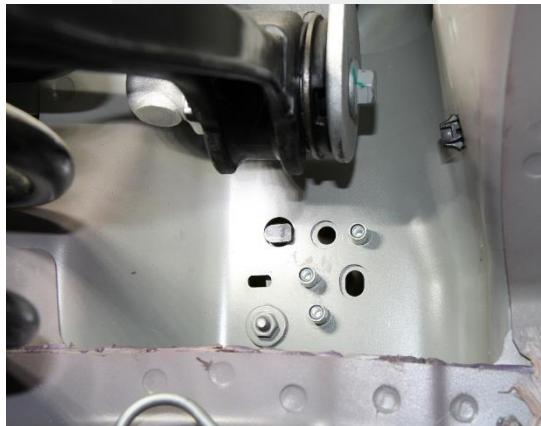

Figure 8
16. Using the rivet nut tool, install a new rivet into the upper rivet hole from inside the underhood area (Figure 8).